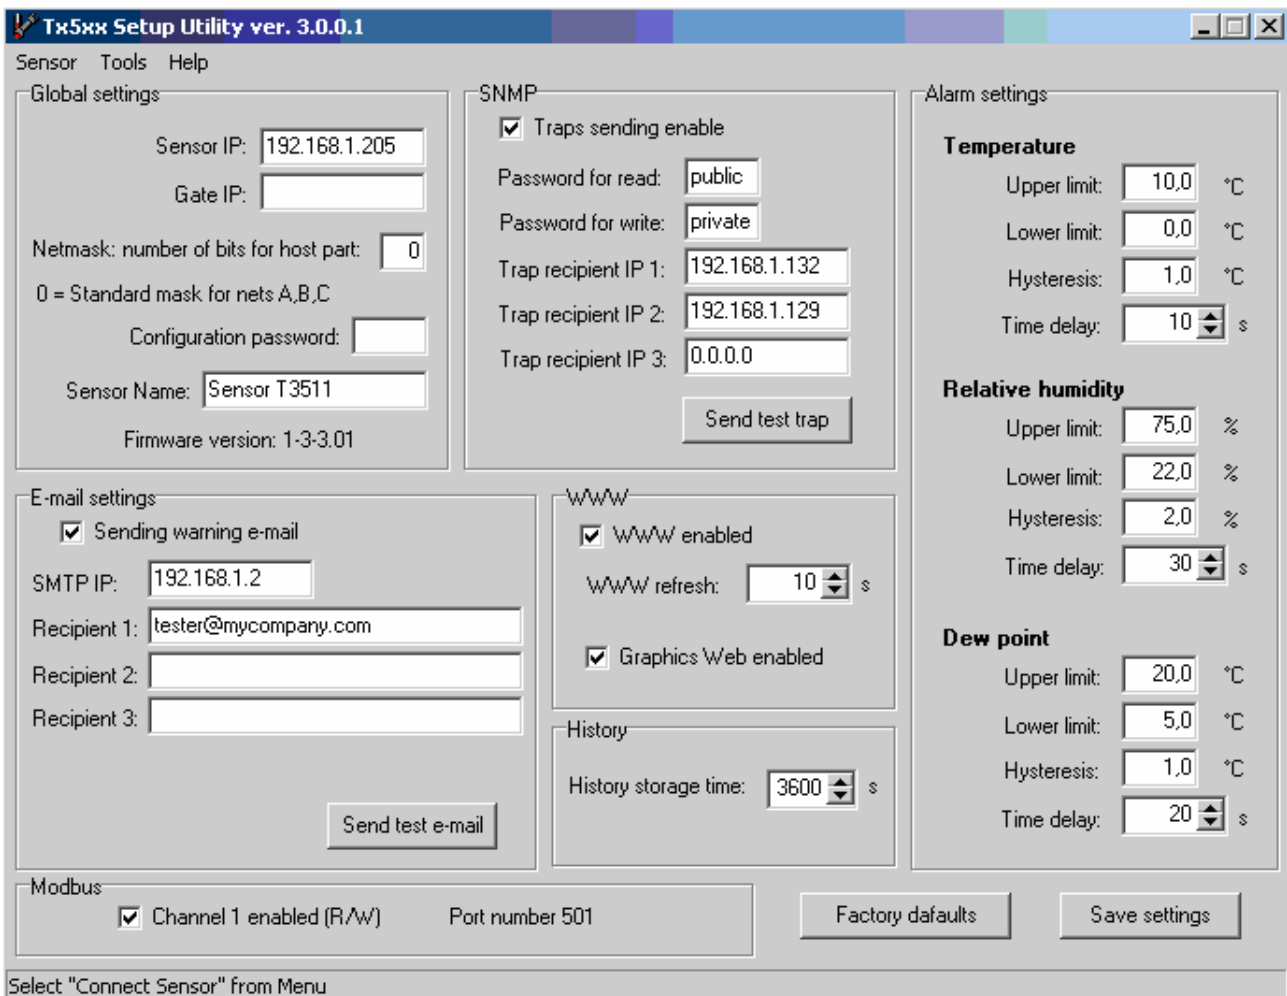

Figure 13 – Sensor settings
- next to press the “Connect” button will be the device settings showed (Fig. 13). By the T4511 device will be the humidity and dew point settings not appears.